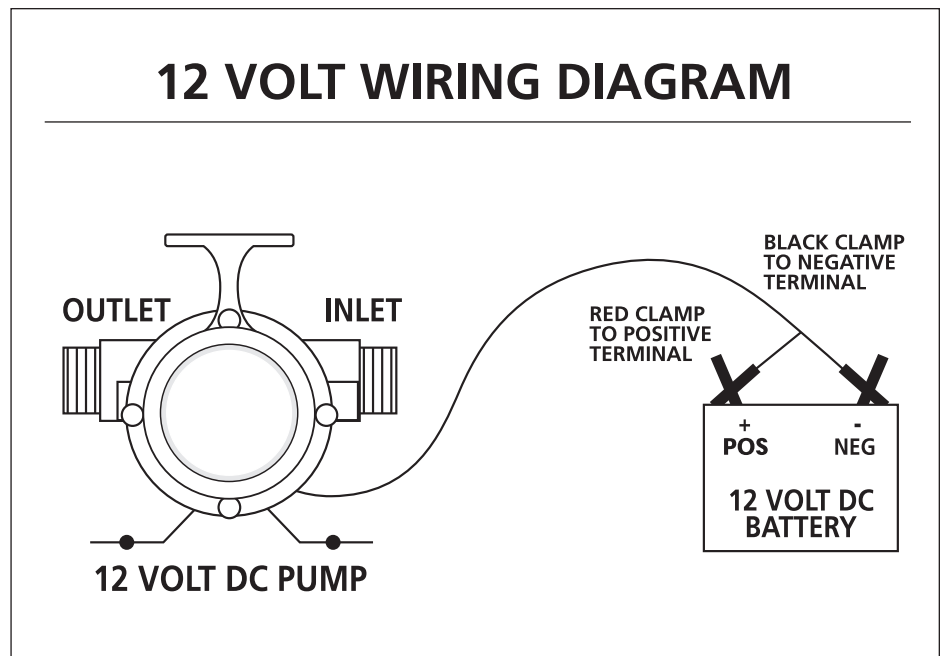

Figure 2
- Connect pump to power source, with pump in a dry location. **Model BPC1:** Motor must be connected to a fully charged automotive tractor or marine type battery to operate. Connect the red clamp to the positive (+) type battery terminal. Connect the black clamp to the negative (-) type battery terminal. See 12V wiring diagram below (Figure 2). **Model BPC2:** Plug into a 3-prong ground-type AC receptacle.